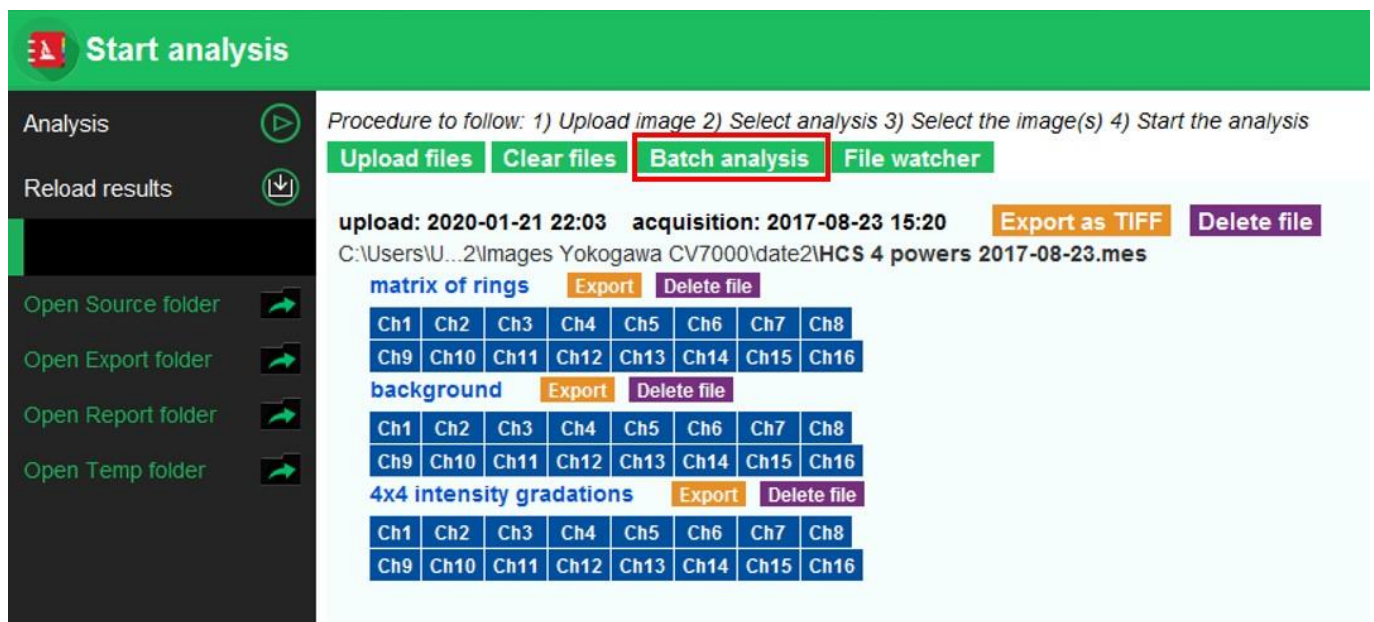

Figure 1: “Batch analysis” feature.
- b) Click on “Batch analysis” (cf. Figure 1).